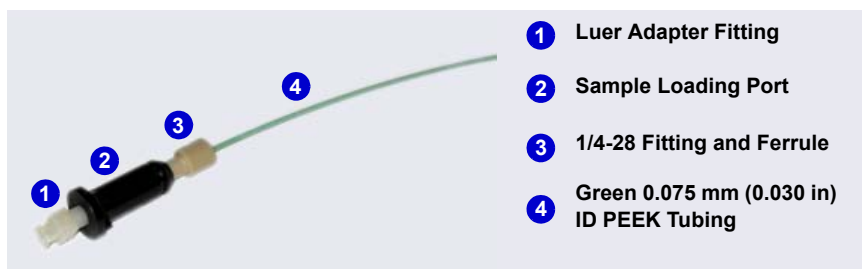

Figure 9-33. Sample Loading Port Connection
4. Attach the luer adapter fitting to the front of the port (see Figure 9-33).